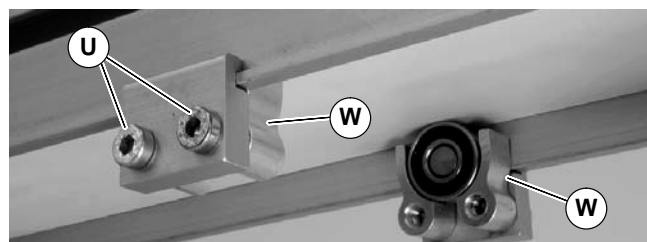

Figure 10
3. Install roller assemblies (W of Figure 10) as shown. Tighten screws (U) to 60 in-lb (7 Nm).